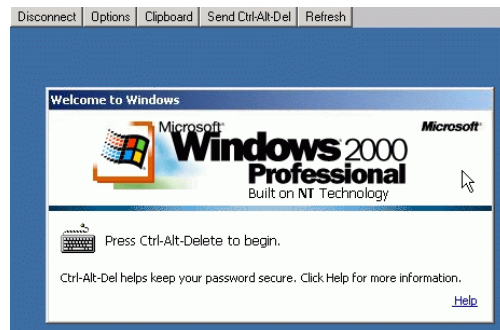

Figure E-3 Welcome to Windows Dialog Box
- d. Type the default password and click *OK*. The *Welcome to Windows* dialog box displays (Figure E-3).